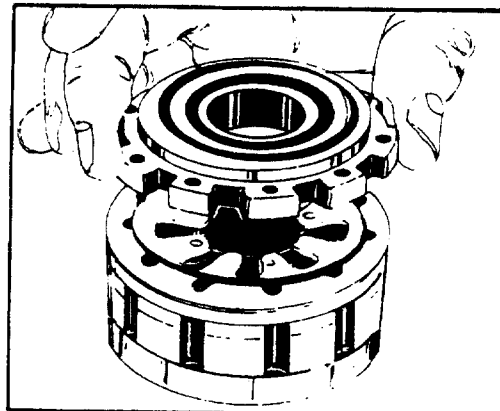

FIGURE 61.
16. Place commutator cover (20) on top of commutator ring (21) with flat surface towards commutator. Align screw holes in cover, with screw holes in drive plate (26). See figure 61.